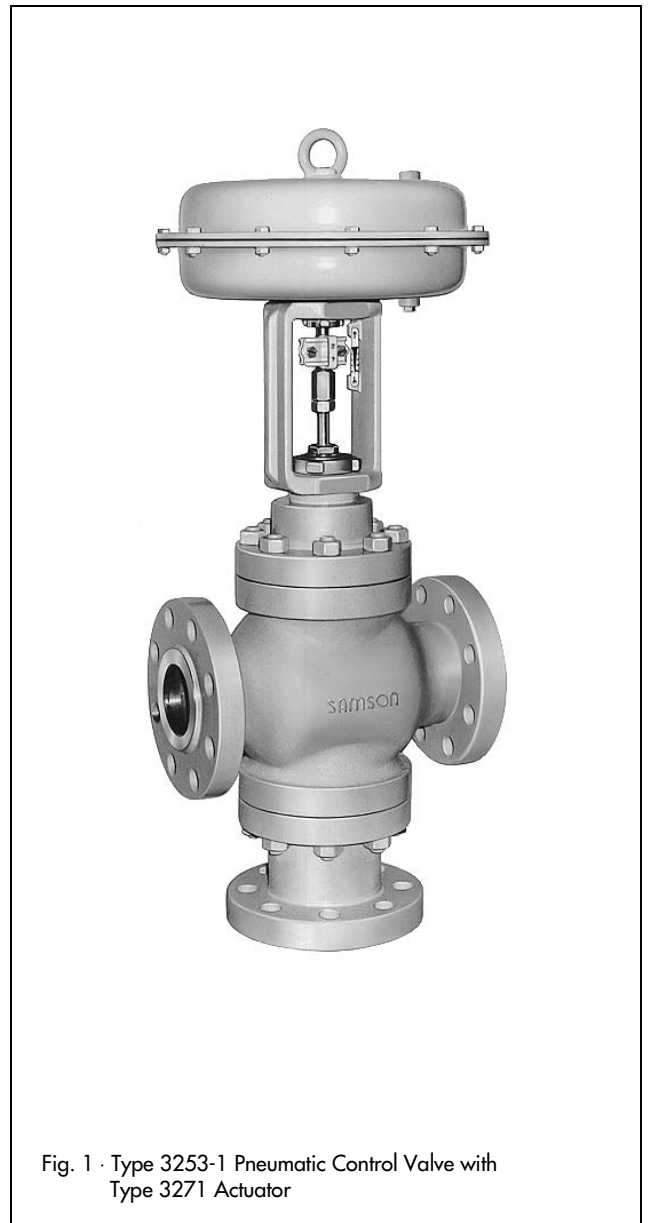

Fig. 1 · Type 3253-1 Pneumatic Control Valve with Type 3271 Actuator
**Type 3253-1** (Fig. 1) · Type 3253 Valve and Type 3271 Actuator with 350 to 2800 cm2 (see T 8310-1 EN and T 8310-2 EN)